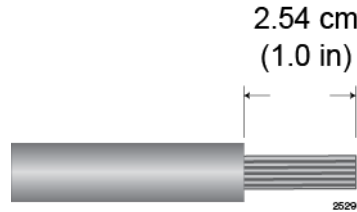

Figure 154. Stripping Solid or Stranded DC Power Wires
1. Prepare adequate lengths of two solid or stranded 8 AWG DC power wires by stripping them as shown in Figure 154.